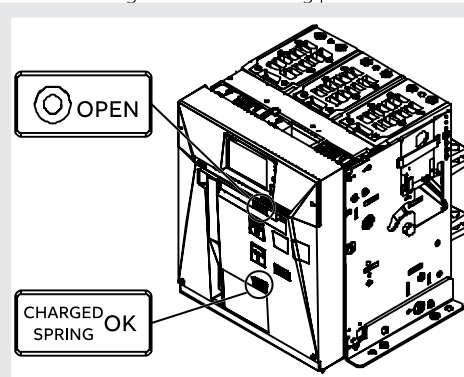

Figure 60
3. Make sure that the circuit-breaker is open. The “O - OPEN” open/closed indicator indicates opening. Check that the springs are charged. The “CHARGED SPRING - yellow colour” spring indicator indicates that the springs are charged, as illustrated in Figure 60.